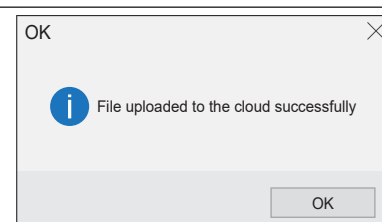

Fig. 111
8. After a brief delay the **.dat** file data will be uploaded to the cloud and an **'OK'** prompt window will appear, **Fig.111**.